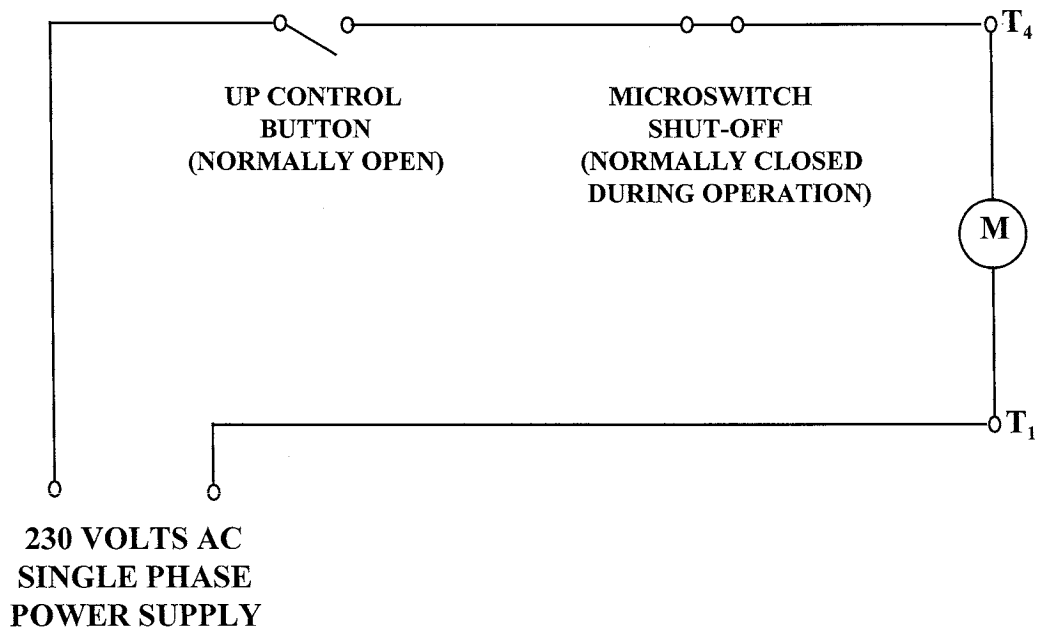

Figure 8 – Electrical Diagram
1. Remove the **red** plastic cap located at the rear of the power pack, and install the 90° fitting (page 25, item 18) located in the hardware kit.
2. Bolt power pack to the mounting bracket on the power side tower using four (4) 5/16"-18UNC x 1"LG. hex head bolts, lock washers, flat washers and nuts. Do not tighten.
3. A **certified electrician** must connect the 230Volt/Single phase power to the motor. The electrical diagram is provided, refer to **Figure 8**.